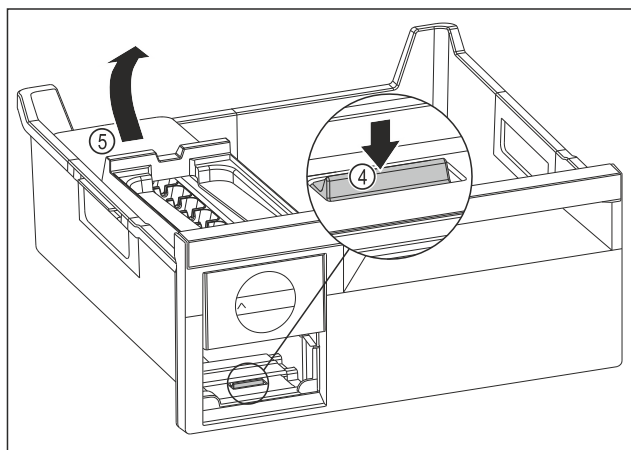

Fig. 124
- Removing the EasyTwist-Ice body: Use your finger to press the tab Fig. 124 (4) downward while at the same time lifting the EasyTwist-Ice body Fig. 124 (5) from behind with the other hand.